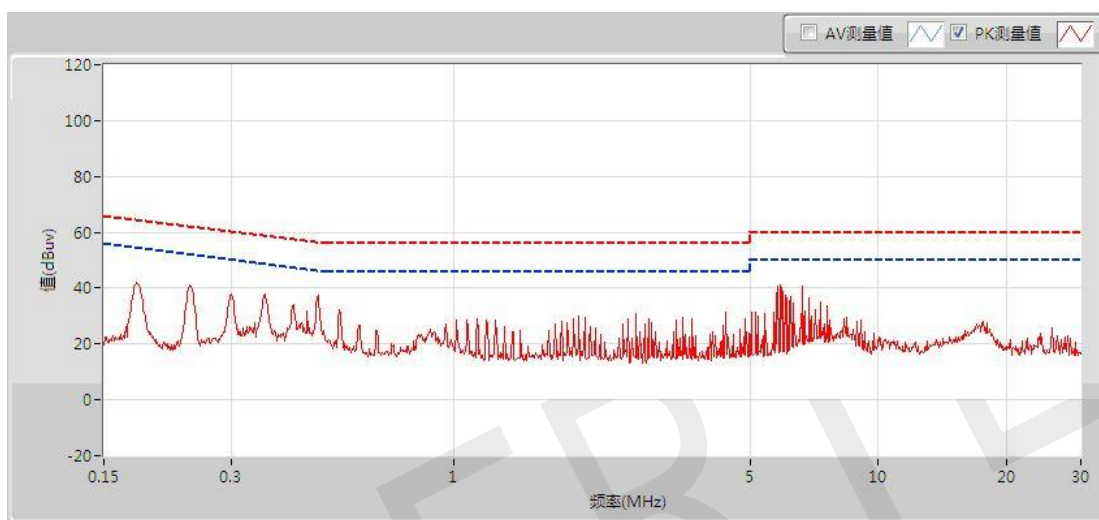

Figure 8 Conduction curve for Enlarged CX2 of 0.47U, no improvement
- ✧ Based on the original filter circuit, CX2 is increased to 0.47U to see if there's improvement. (Refer to Figure 8, 9 and 10):